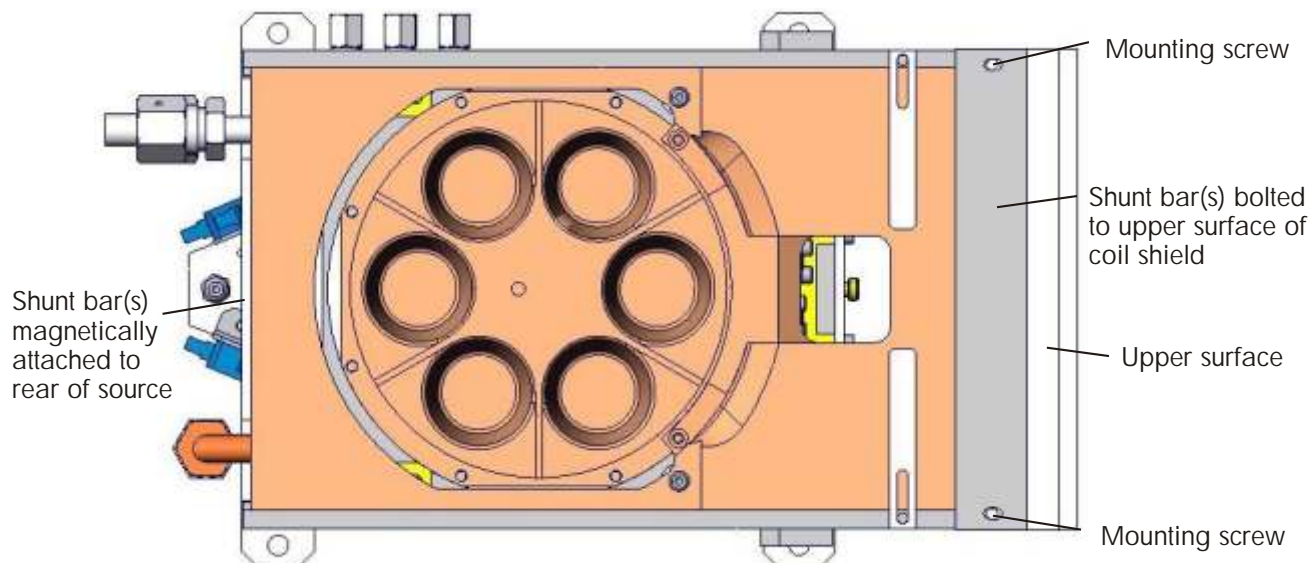

Figure 3-1. Correct mounting location for shunt bar(s)
Two shunt bars are supplied with the source, although in some cases additional shunt bars may be required. The mounting positions for the shunt bars is shown in Figure 3-1. Note, however, that the effect of the shunt bars varies depending on whether they are mounted on the front or the rear of the source. Therefore, if multiple shunt bars are required, it is important to add them in the following sequence:
1. Mount the first shunt bar atop the coil shield, as shown in Figure 3-1, using the socket-head screws and nuts supplied with the shunt bars.
2. If additional shunting is required, attach a second shunt bar magnetically to the rear of the source, in the rearward position shown in Figure 3-1.